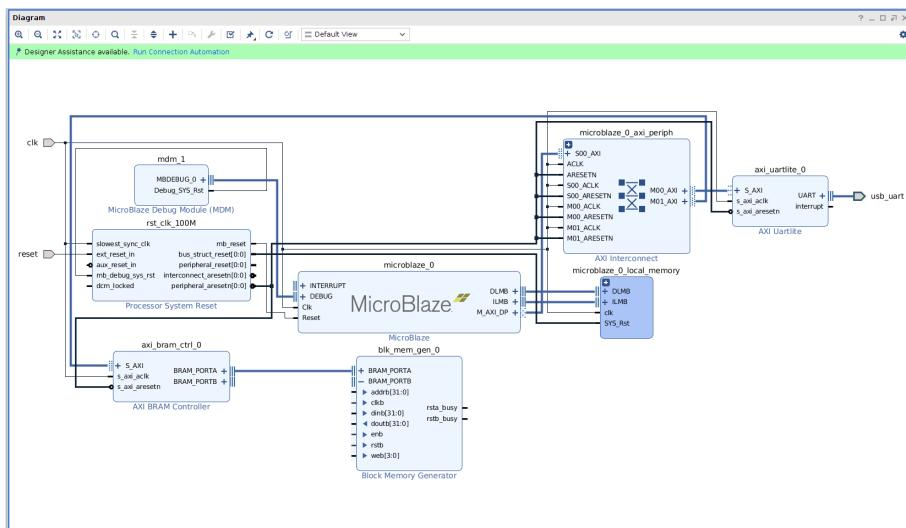

Figure I.2: The shared memory hardware after the shared memory and controller are connected using block automation.
7. Select ‘Run Connection Automation’. This will bring up a set of checkboxes for the buses you want to connect. Select all except `BRAM_PORTB`. Now click on the button at the top of the diagram pane that looks like a step with a circular arrow inset. This should neaten up the diagram, and it should look like that shown in Figure I.2. It does not matter if everything is not in exactly the same place, so long as the wires are connected to all the peripherals.